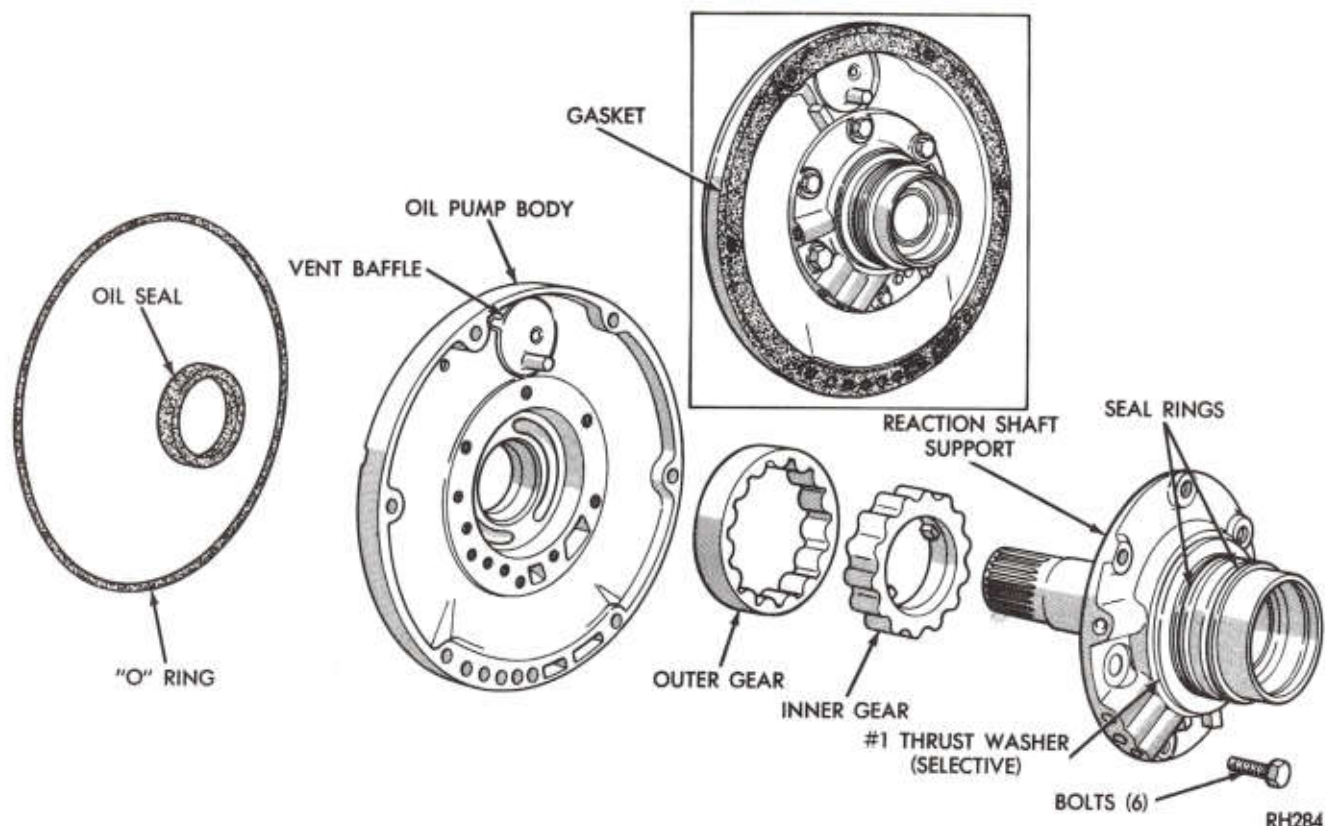

Fig. 14—Oil Pump and Reaction Shaft Support (A-727)
Figure 14 shows the oil pump and reaction shaft support disassembled.
Inspect interlocking seal rings (Fig. 14) on reaction shaft support for wear or broken locks, make sure they turn freely in the grooves. Inspect machined surfaces on pump body and reaction shaft support for nicks and burrs. Inspect pump body and reaction shaft support bushings for wear or scores. Inspect pump gears for scoring or pitting. With gears cleaned and installed in pump body, place a straightedge across face of gears and pump body. Use a feeler gauge to measure clearance between straightedge and face of
(1) Assemble pump gears and O-ring in the pump housing (Fig. 14).
(2) Install reaction shaft support. Install retaining bolts and tighten to 175 in. lbs. (20 N·m).
(3) Place a new oil seal in opening of pump housing (lip of seal facing inward) using Tool C-3860A and Handle C-4171, drive seal into housing until tool bottoms.